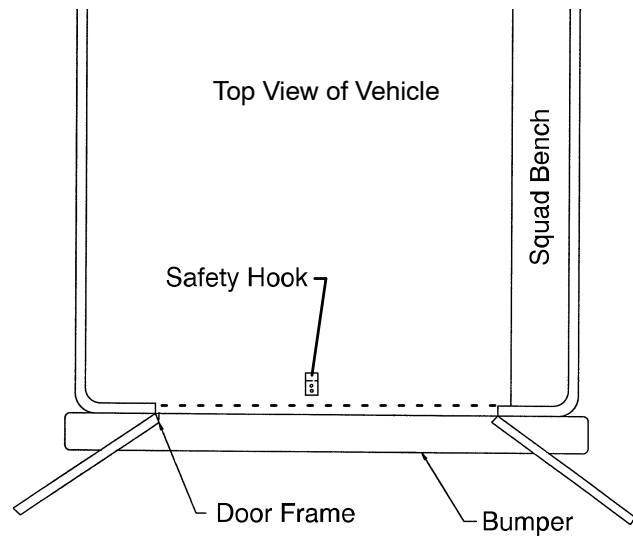

Figure 4C - Safety Hook Placement
4. Mark the position of the safety hook on the patient compartment floor. The safety hook should be installed as close as possible to the rear of the vehicle while allowing the vehicle doors to close and checking that the load wheels always remain on the patient compartment floor (i.e., wheels do not roll off the door sill when the cot safety bar engages the safety hook) when the cot is loaded and unloaded from road and/or curb height (Figure 4c).